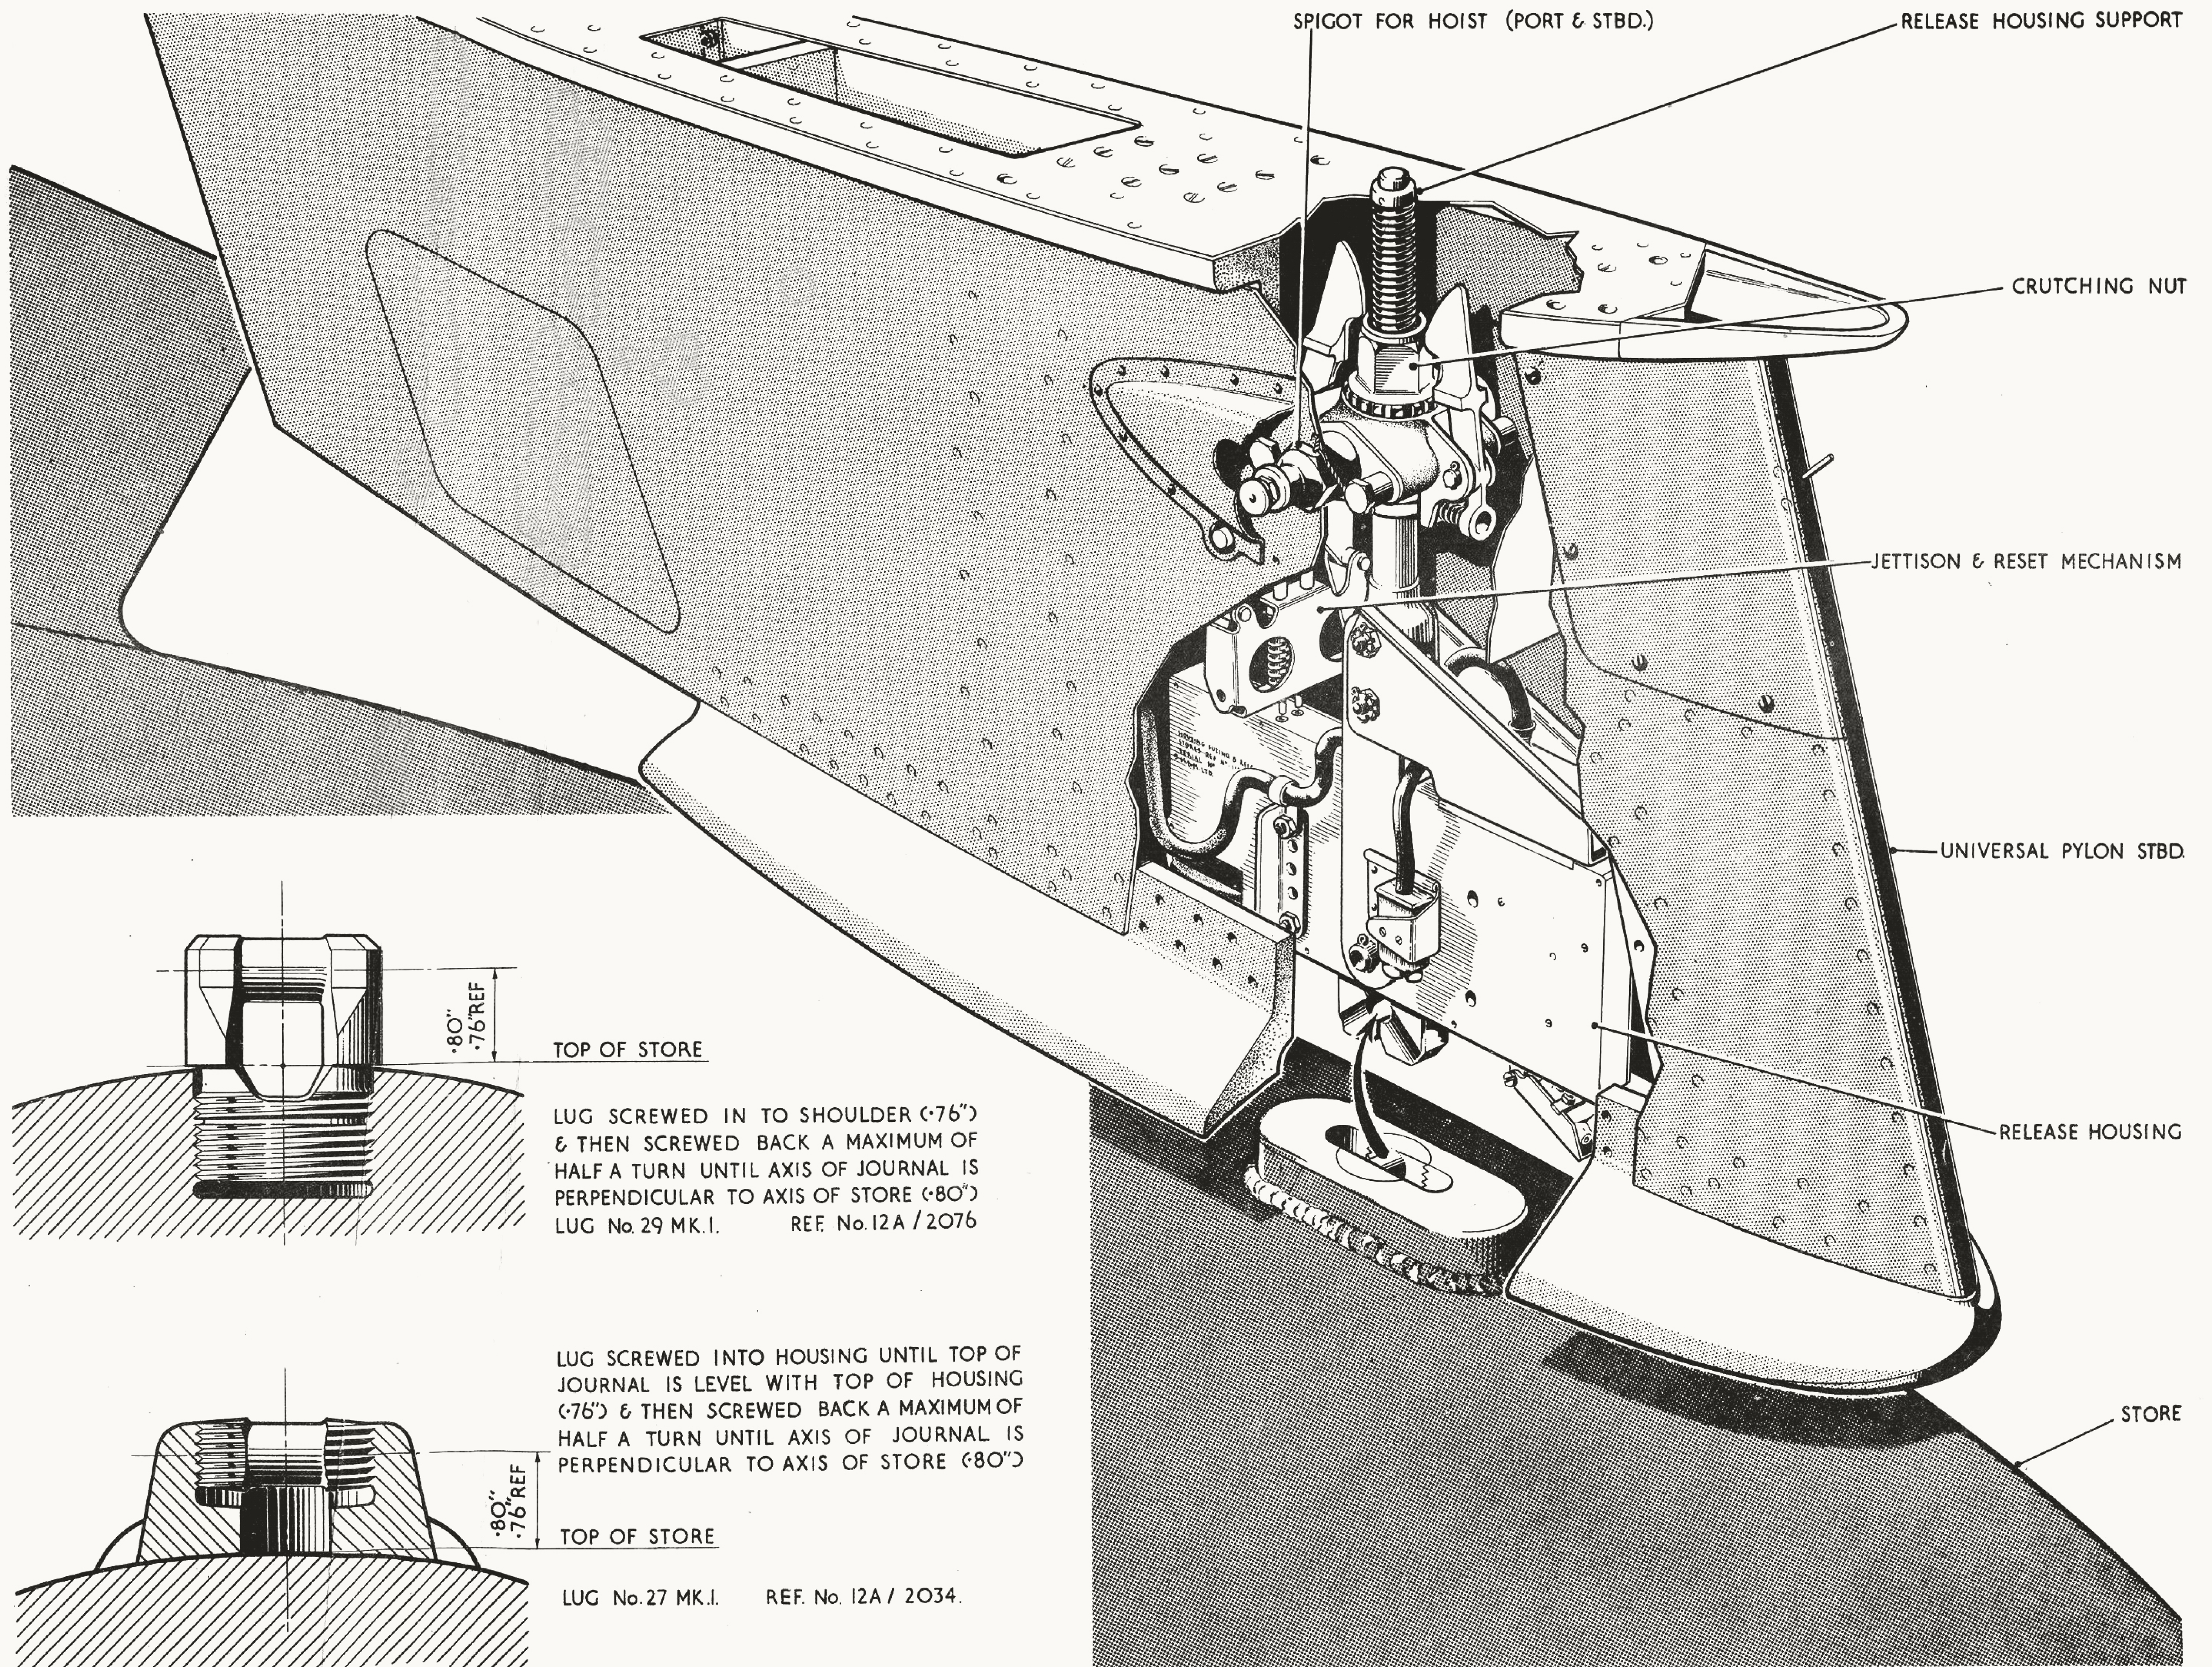

FIG. 1 BOMB INSTALLATION
- (1) Remove armament safety plug (Para.6), and ensure that the usual armament safety precautions are strictly observed.
- (2) Position the transporter so that the suspension lug of the store is under the release unit in the pylon.
- (3) Ensure that the suspension lug (No.27, Mk.1, Stores Ref.12A/2034 for bombs, and No.29, Mk.1, Stores Ref.12A/2076 for all other stores), is fitted in accordance with the instructions given in fig.1. This is important.
- (5) Ensure that the release unit is assembled in the pylon with the engraved arrow pointing forward.
- (6) Ensure that the release mechanism is functioning correctly by operating the jettison and re-set mechanism a number of times by pressing on the buttons on either side of the pylons. Finally, press the button on the starboard side of the pylon to re-set the mechanism.
- (7) Unscrew the crutching nut approximately 0.75 in.
- (8) Position Type C hoists (Stores Ref.4G/3360) on spigots (fig.1).
- (9) Position a Type E sling belt (Stores Ref.4G/2873) under the store and connect and operate the hoists (A.P.1664C, Vol.1) until the store suspension lug enters the hooks of the release unit.
- (10) Raise the store until the suspension lug of the store engages with the release hooks and trips them into the closed position, thus securing the store. Continue slowly, the raising of the store until it comes up against the sole plate at the bottom of the pylon, at the same time tightening the crutching nut by use of the spanner (Part No. B.204233).
- (11) Check that the release unit is correctly cocked by carrying out the electrical cocking test described in Sect.5, Chap.1, Group G.1 of this volume.
- (12) Remove the rubber sealing plugs from the sighting holes in each side of the pylon in the region of the jettison and re-set mechanism, and by viewing through these